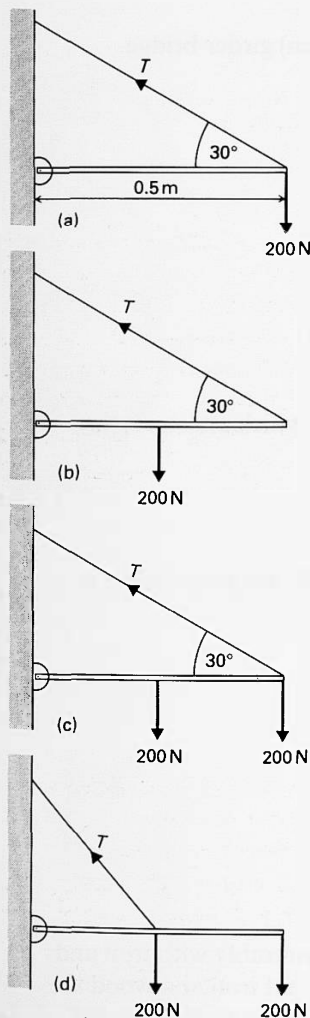

Figure A111
- a A weight of 200 N is hung from the far end of the beam as shown in figure A111(a).
- b The weight is moved to the mid-point of the beam – figure A111(b).
- c A second 200 N weight is now added at the far end of the beam—figure A111(c).
- d With the weights still in position, the string is shortened and tied to the mid-point of the beam, which remains horizontal. The string remains attached to the same point on the wall – figure A111(d).